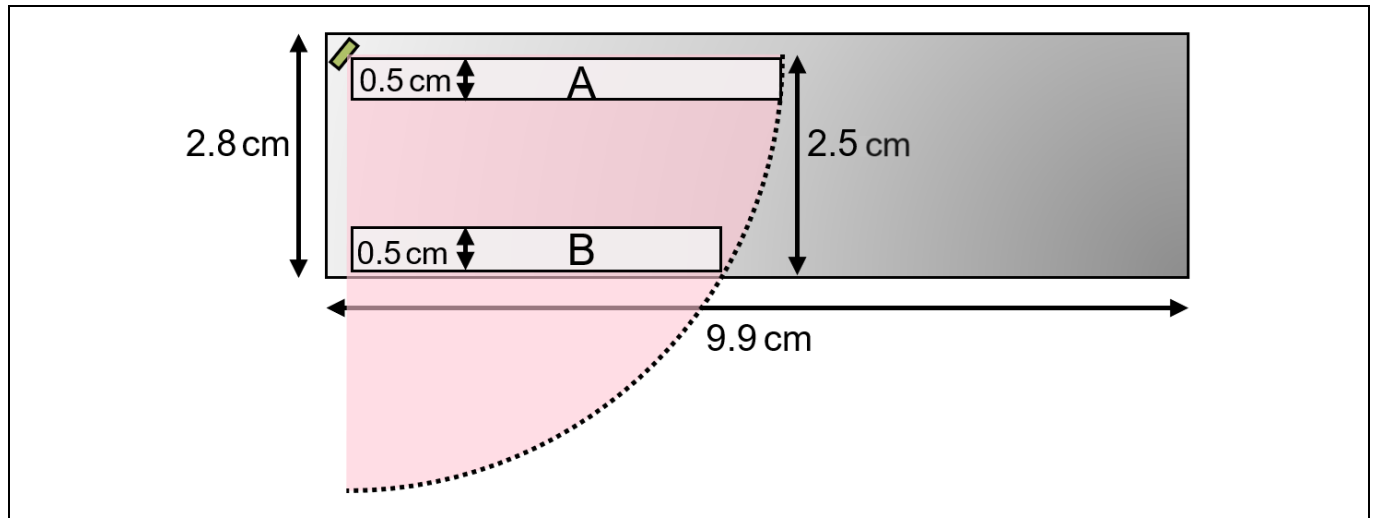

Figure 18 Coverage measurement
3. Draw a rectangle with 0.5 cm height to place on the coverage area. Extend the length of the rectangle until it touches the arc edge. Figure 18 shows examples of the rectangle, labeled A and B.